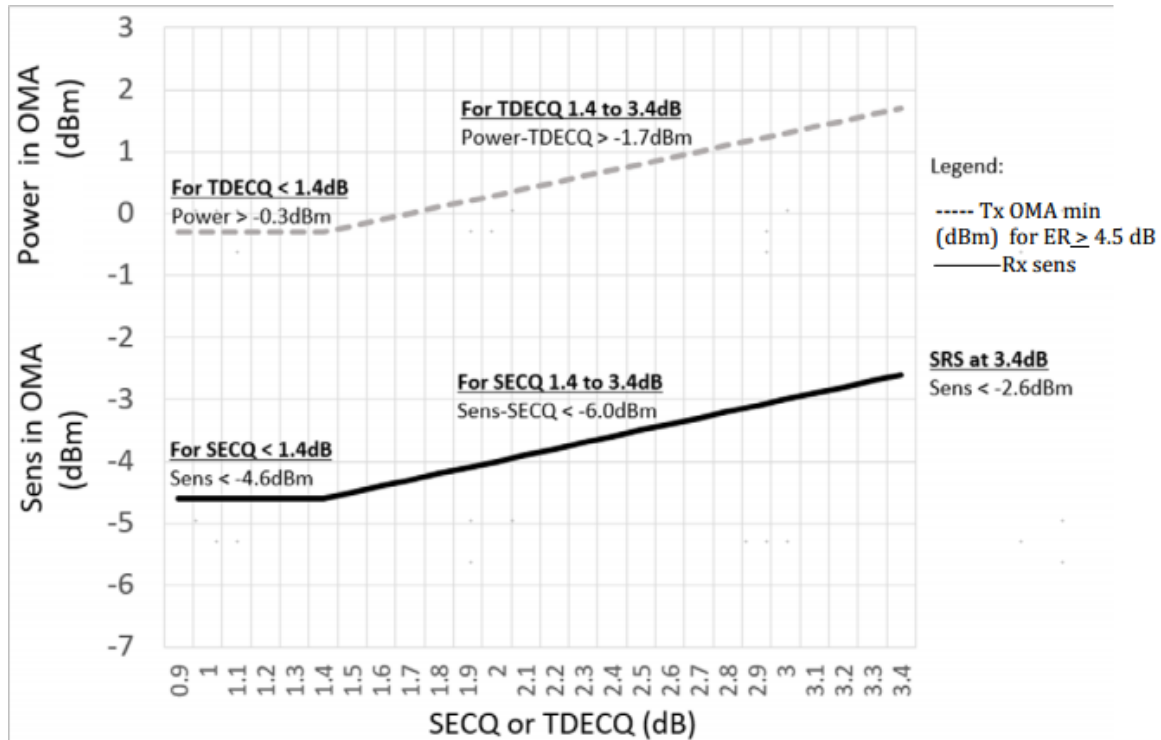

Figure1. Illustrated of receiver sensitivity mask for 400G FR4
3. Receiver sensitivity (OMAouter), each lane (max) is informative and is defined for a transmitter with a value of SECQ up to 3.4 dB. Receiver Sensitivity should meet Equation (1), which is illustrated in Figure1.